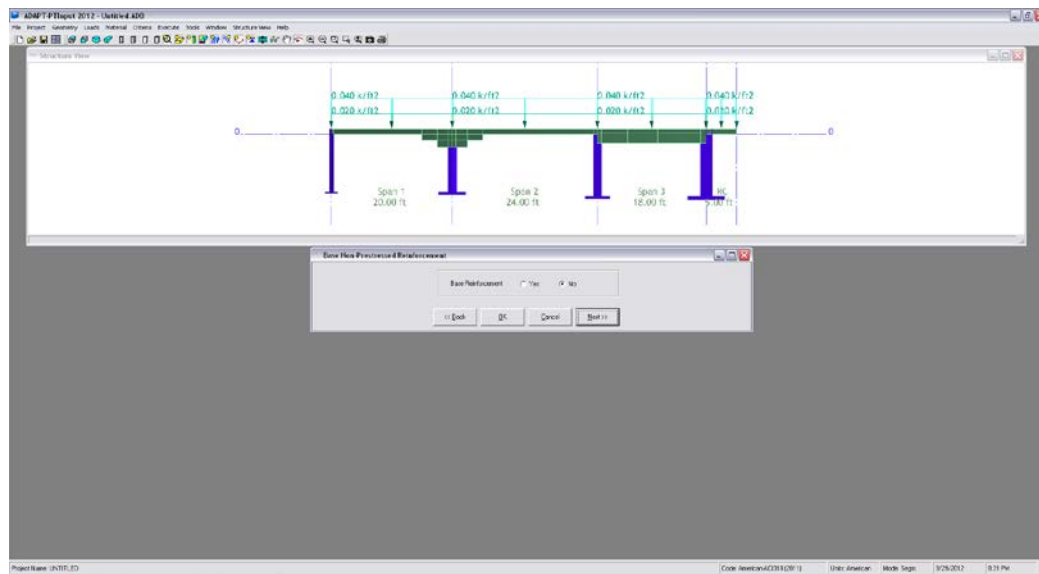
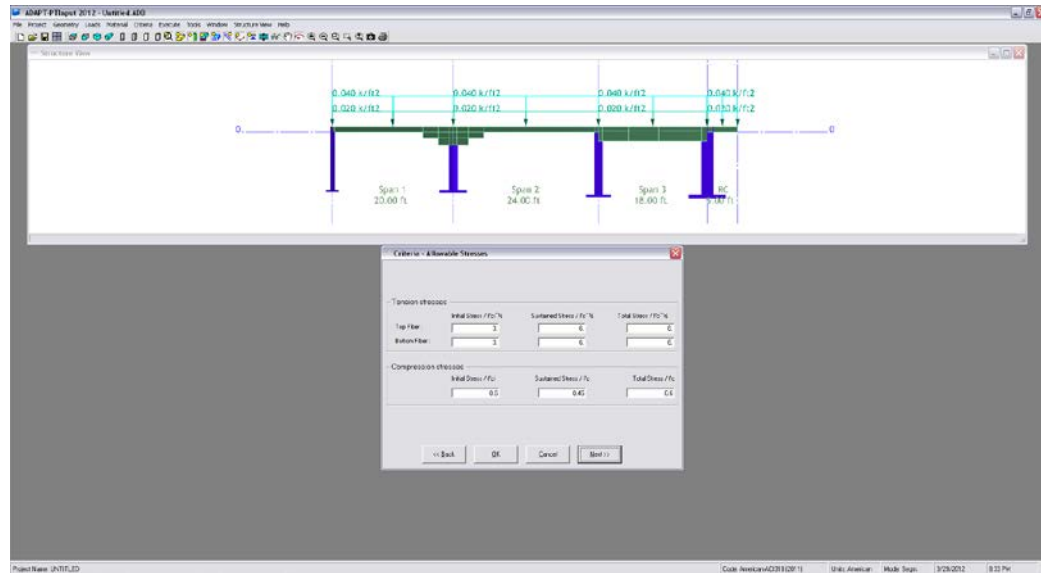

FIGURE 5.3-21
FIGURE 5.3-22
5.3.4.4 Edit Base Reinforcement (Fig. 5.3-21)
5.3.5.1 Enter The Initial And Final Allowable Stresses (Fig. 5.3-22)
ADAPT-PT 2012 allows lateral moments to be included and designed for in combination with gravity loads. To do this, select the check mark to *Include lateral loads* and click on the *Set Values* button to define *Lateral moments* (**Fig. 5.3-21**) and *Lateral load combinations* (**Fig. 5.3-22**). For this example, lateral loads will not be included.